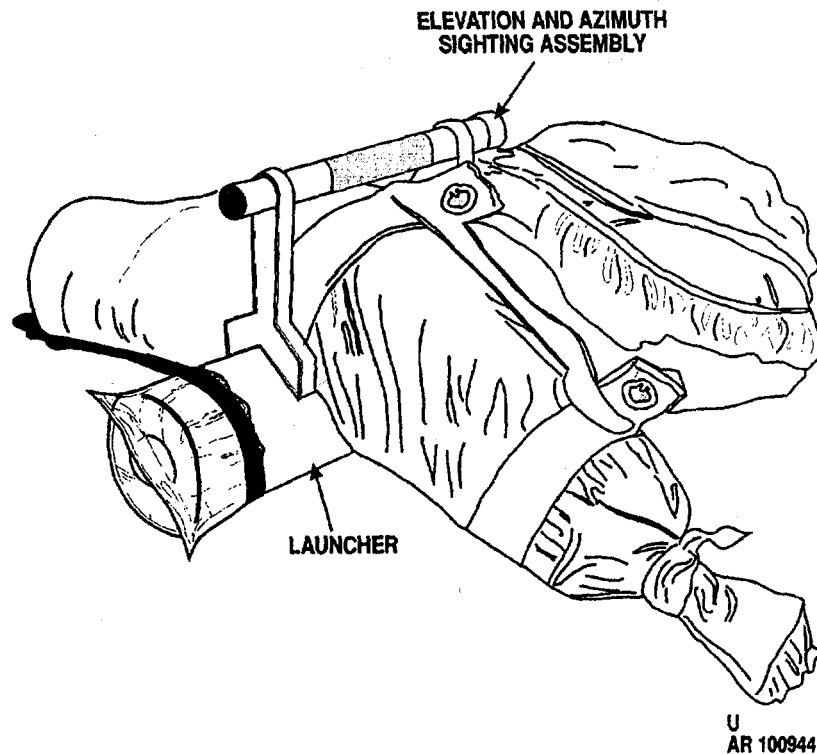
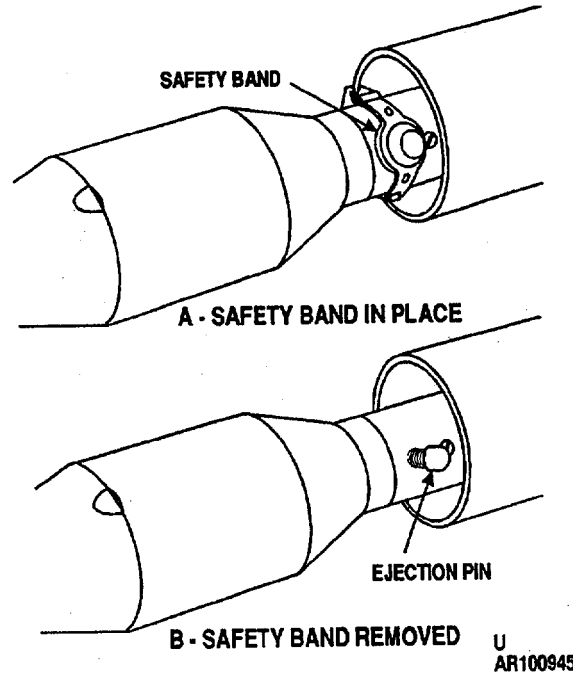

Figure 2-66. Emplaced launcher and sighting assembly, weighted.
Figure 2-67. Safety band in place and removed.
- (1) In soft earth, loose sand, etc., scoop up mound approximately 2 feet in diameter to height of 6 to 8 inches (fig. 2-66).
- (2) Remove circular wooden blocks from launcher end.
- (3) Supporting head of rocket, firmly push rocket slowly forward until safety band is exposed (fig. 2-67).
- (4) Remove safety band.
- (5) Depress ejection pin and push rocket into launcher until ejection pin is held in